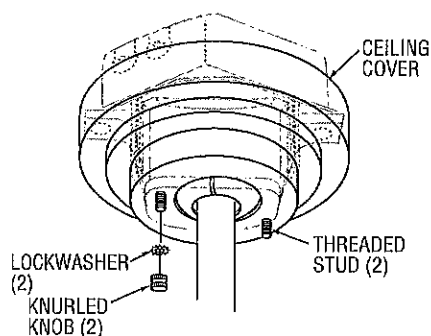

Figure 19
- ☐ 4. Screw the two 1-1/4" threaded studs (supplied) into the tapped holes in the hanger bracket (Figure 19).
- ☐ 5. Lift the ceiling cover up to the threaded studs and turn until the studs protrude through the holes in the ceiling cover (Figure 19).
- ☐ 6. Secure the ceiling cover in place by sliding lockwashers (supplied) over the threaded studs and installing the two knurled knobs (supplied). (Figure 19). Tighten the knurled knobs securely until the ceiling cover fits snugly against the ceiling.